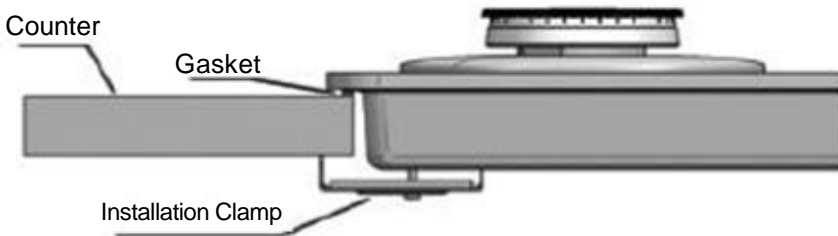

Figure 7.
- In order to prevent insertion of the foreign materials and liquids between the hob and the counter attaché the gasket on the counter hole without allowing any overlapping before the installation. (Figure 7)
- Secure the unit on the counter by using the installation sheet and screws. (Figure 7 and 8)